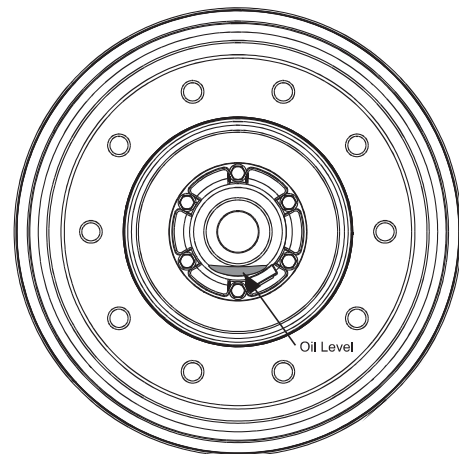

Figure 12 - Wheel Bearing Oil Level
18. Check oil level through the hubcap window (**Figure 12**). If level is below the “add” level line, then fill with recommended oil until “full” level is achieved. Add oil slowly since the heavy weight oil will settle slowly in the hub. (Note: The hubcap window can only be cleaned with mild soap and water. Aromatic solvents should not be used, as they will impair the transparency of the window.)